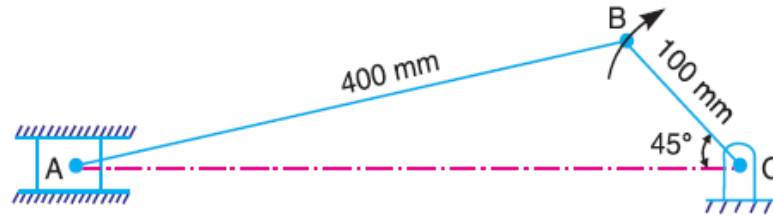

Fig. 1
14. Locate all the instantaneous centres of the slider crank mechanism as shown in Fig.1. The lengths of crank OB and connecting rod AB are 100 mm and 400 mm respectively. If the crank rotates clockwise with an angular velocity of 10 rad/s, find: 1. Velocity of the slider A, and 2. Angular velocity of the connecting rod AB.